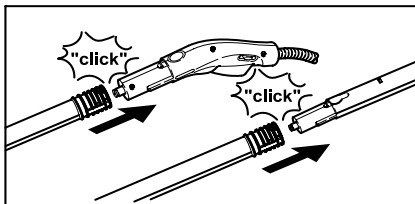

Figure 4
- Use the extension pieces (G1) if necessary. To do so, connect one or both extension pieces to the steam gun (C1) (see Fig. 4). Insert the required accessories (D1, E1, H1) on the free end of the extension piece.